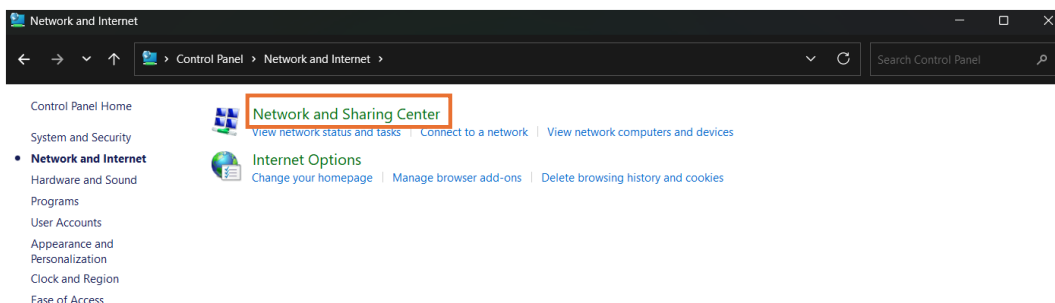

Figure 5.20. Network and Internet
3. Click **Network and Sharing Center** as shown in Figure 5.20.